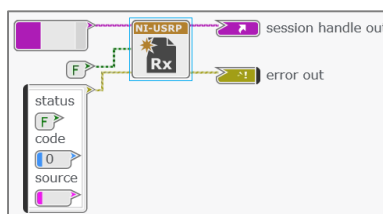

Figure 44: "niUSRP Open Rx Session.gvi" (2.0)
- Any subVI or cluster containing the previous niUSRP host session handles will be broken. The data type for the session handle was changed completely. Any instance of the session that exists between API calls or property nodes will load correctly. For reference, see Figure 44.